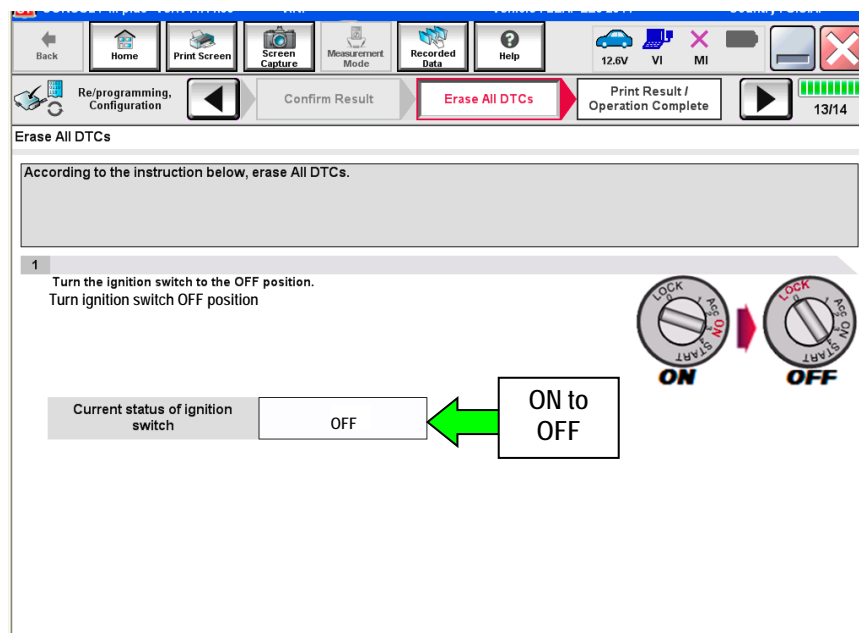

Figure 19
- The screen in Figure 19 will read OFF after pressing the power/ignition switch once.
- The screen in Figure 19 will read ON after pressing the power/ignition switch twice.